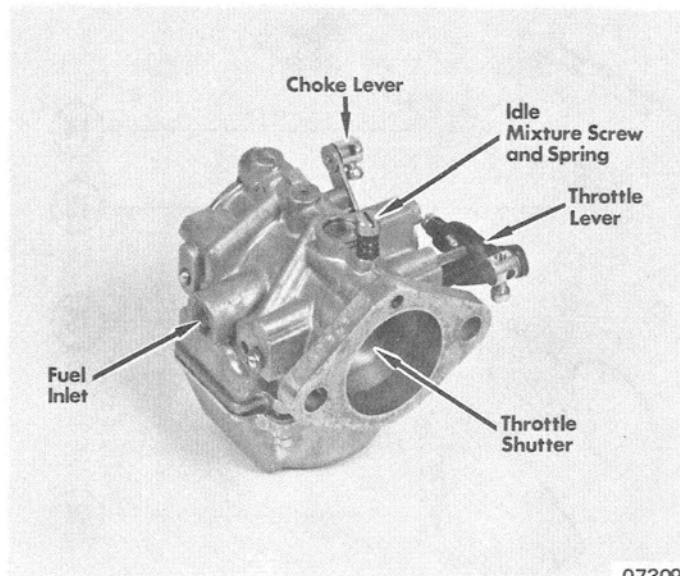

Figure 4. Carburetor, Left Side
2. Remove idle mixture screw and spring. (Figure 4) Examine taper point and threads for damage.
7. If carburetor is unusually dirty, it may be necessary to remove the bypass chamber welch plug (Figure 4) which covers the primary and secondary idle discharge parts. **CAREFULLY** drill through welch plug with 1/8" drill. Allow drill to just break through the welch plug. If drill travels too deep into the cavity, the casting or discharge ports may be damaged. Inspect discharge ports to ensure that they are not plugged. **DO NOT** push drills or wires into these metering holes, as it may alter carburetor performance. Blow holes clean with compressed air.